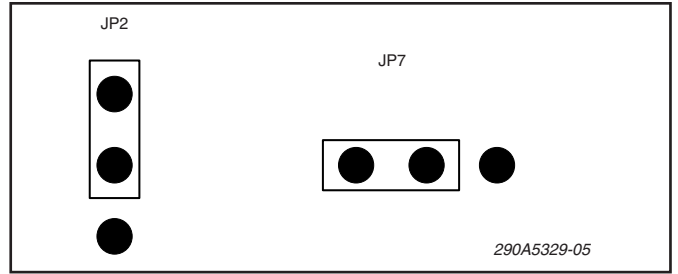

Figure 5.
a. See figure 5. Ensure that jumpers JP2 & JP7 are installed as indicated.